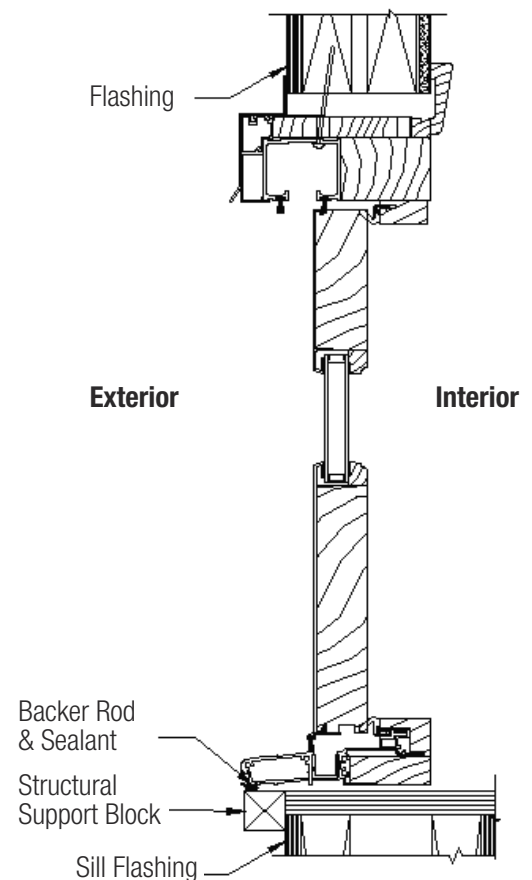

FIG. 21
- B) After siding or wall exterior is complete, apply backer rod and sealant between the door frame and siding material on both sides and sill. Make sure to use 100% silicone sealant. (Fig. 21)
- C) Insulate between the door frame and the rough opening using minimally expanding window and door spray foam insulation, and fiberglass batt insulation if needed. Use caution to not overfill the gap causing the jambs to bow. It is not recommended to apply trim to the unit until the foam has cured to allow the excess to escape. (Fig. 21 & 22)